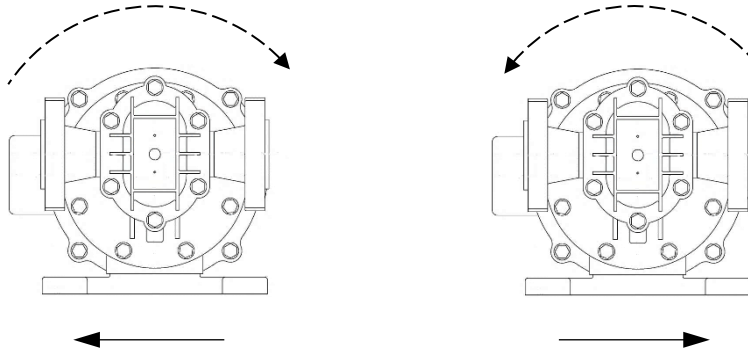

Figure 2b. Flow Direction vs. Motor Rotation viewed **FROM PUMP END**
- Direction of flow is dependent on direction of motor rotation. Reversing the motor direction, and therefore the drive shaft rotation direction, reverses flow. This will also change which port is the suction and which is the discharge, see Figures 2b and 2c
- ✓ **Confirm Flow Direction** - As noted in **Section 4.3**, Eclipse Series pumps are bi-directional; the direction of flow is determined by the direction of motor rotation. Refer to Figures 2b and 2c.